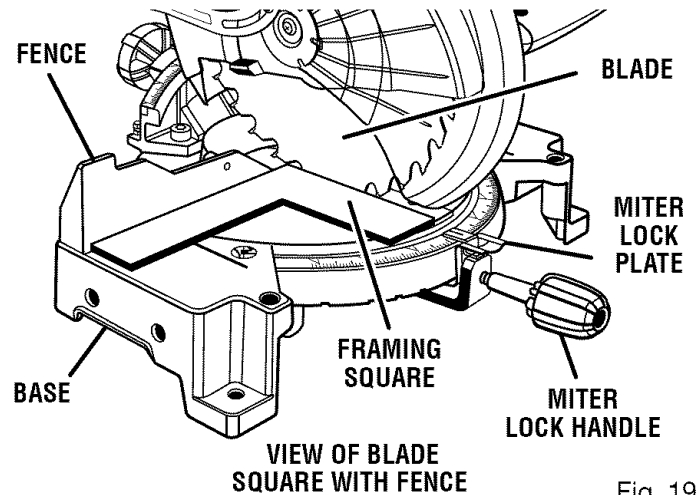

Fig. 19
See Figures 19 - 22.
- The edge of the square and the saw blade should be parallel as shown in figure 19.